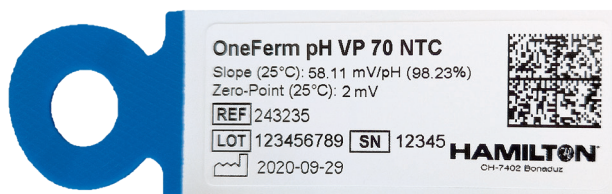

Figure 14: Example of sensor label with calibration data.
1. Read the zero point (mV) and slope (mV/pH) written on the sensor label (see figure 14).